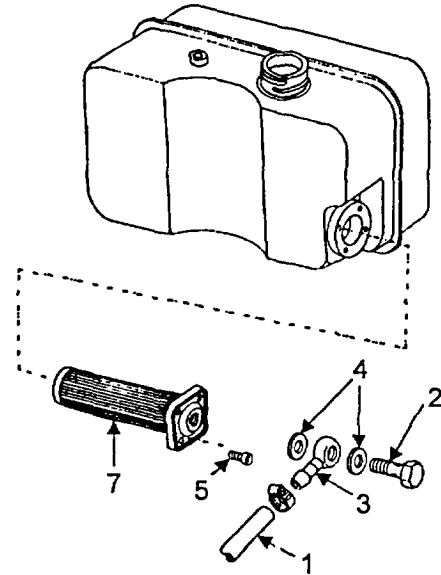

Figure 4-12. Fuel Filter
a. Disconnect gravity feed line (Figure 4-12, Item 1) at the pump end and drain fuel tank into a suitable container. Reconnect fuel line (1) to pump
b. Remove banjo bolt (2) and ring piece (3) and washers (4) Apply closures to open end of fuel line.
c. Remove four cap screws (5) from filter mounting plate (6). Remove and discard fuel filter assembly (7).